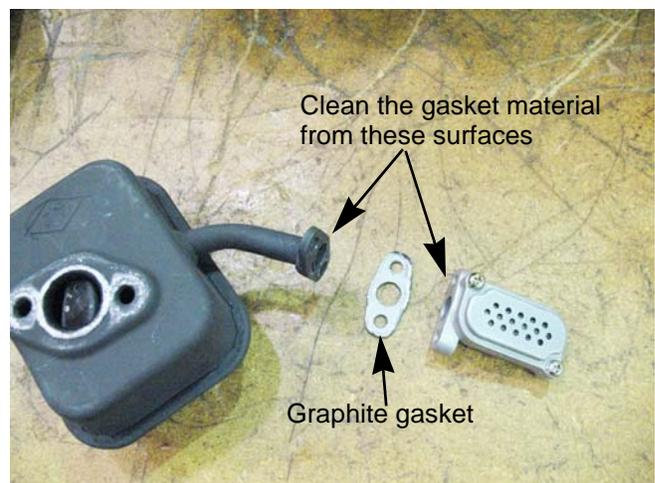

Figure 8.9
4. Clean the gasket material from the air injector and the muffler. See Figure 8.9.